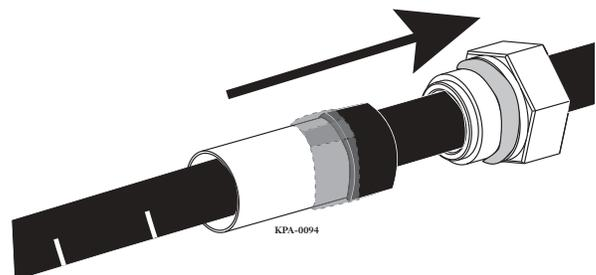

Figure 2
**Step 2** Slide the OptiFit nut onto the cable and past the marks on the cable sheath in the orientation shown (Figure 2).